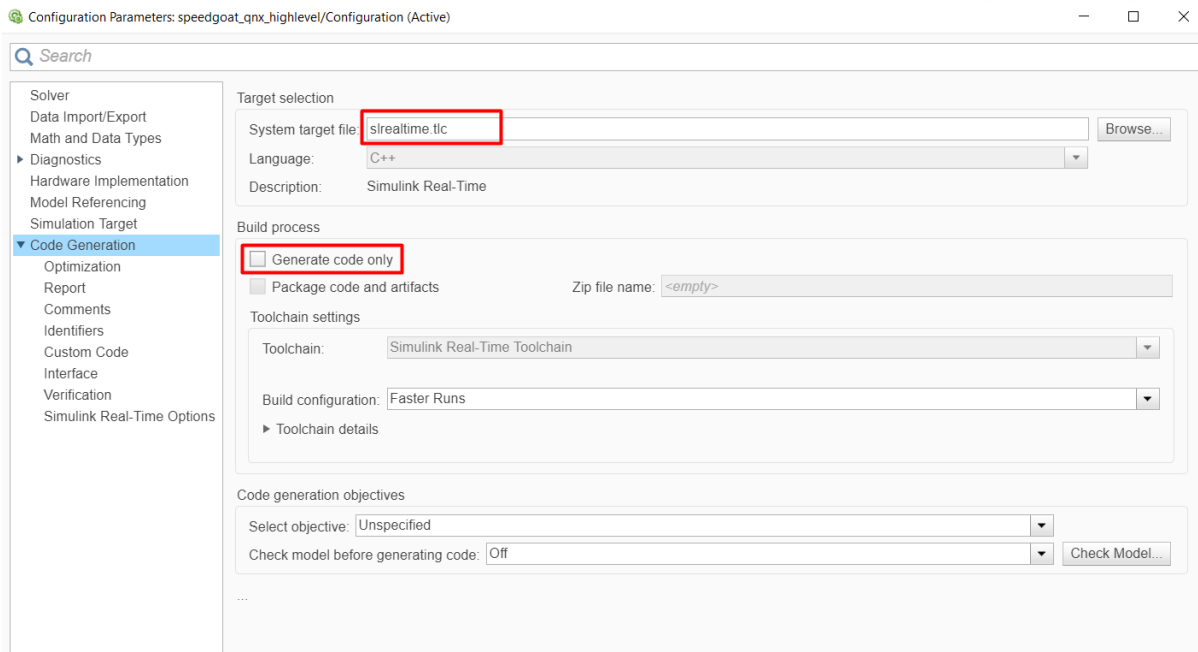

Figure 13.95: Set the Simulink code generation options.
9. (Figure 13.95) In the “Code Generation” tab, set the options: